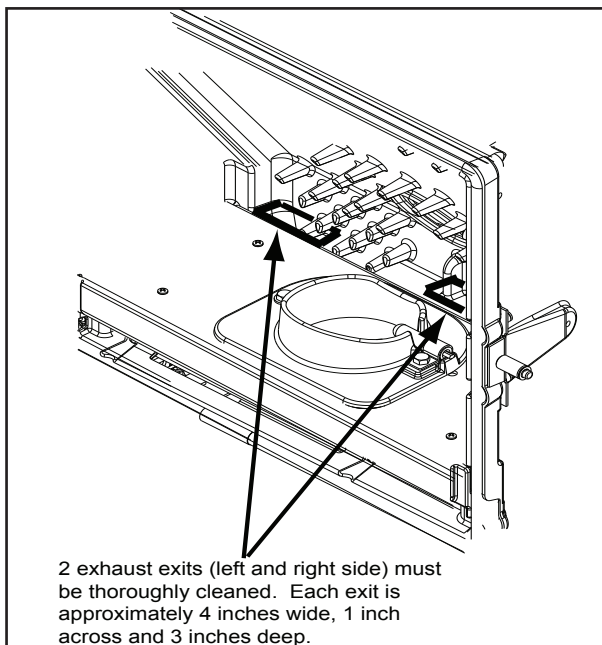

Figure 24.2
- d. Use the crevice tool to finish cleaning the heat exchanger fins. It is critical that the 2 exhaust exits at the back of the firebox floor (left and right) be thoroughly cleaned. **Figure 24.2.** There are several ways this can be done.